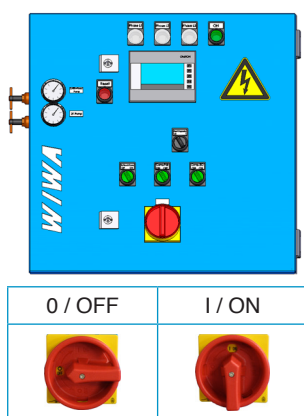

Figure 2.2
- Switch off the machine before starting maintenance and cleaning work on the unit or the spraying accessories (Figure 2.2).